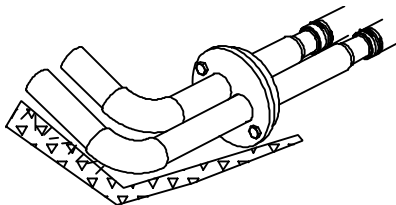

Figure 10
5. Install steel elbows on the top end of the nipples (See Figure 10). Teflon tape all threaded joints to prevent leaks!